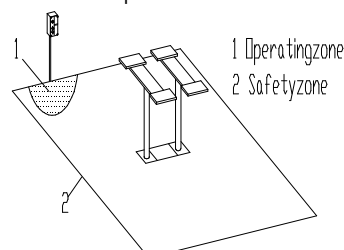

Fig. 3
The safety zone (Fig. 3) is determined by the dimensions of the vehicle.
During lifting- and lowering movements, the operator must be within the zone of operation (1), as shown in Fig. 3. The presence of any person in the danger zone (2) is strictly forbidden. The presence of persons under the vehicle is only permitted if the vehicle is parked in the lifted position.